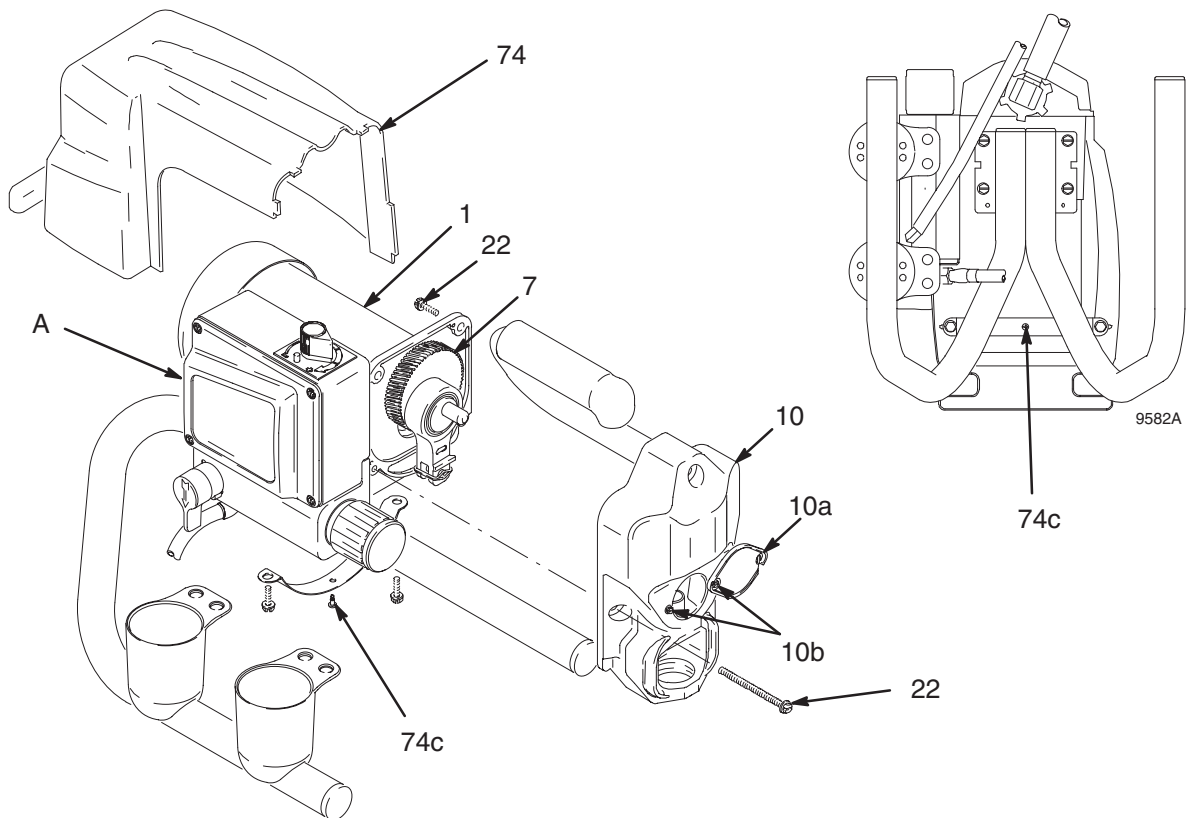

Fig. 8
- Remove pump (13); **Displacement Pump Replacement**, page 17.
- Fig. 8. Tip sprayer up. Remove screw (74c) and remove shroud (74).
- Remove two front screws (22).
- Remove two back screws (22).
- Pull drive housing (10) off of motor (1).
- Push drive housing (10) onto motor (1)
- Install two front screws (22).
- Install two back screws (22).
- Fig. 8. Tip sprayer up. Install shroud (74) with screw (74c).
- Install pump (13); **Displacement Pump Replacement**, page 17.